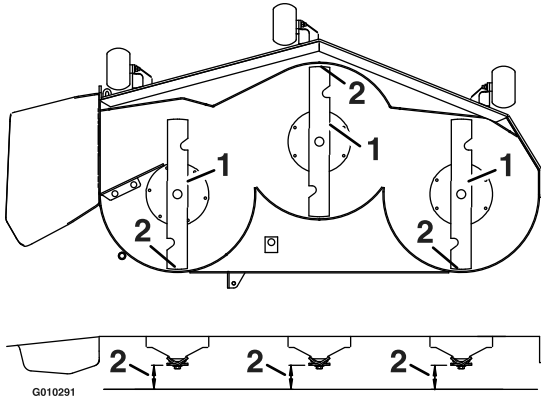
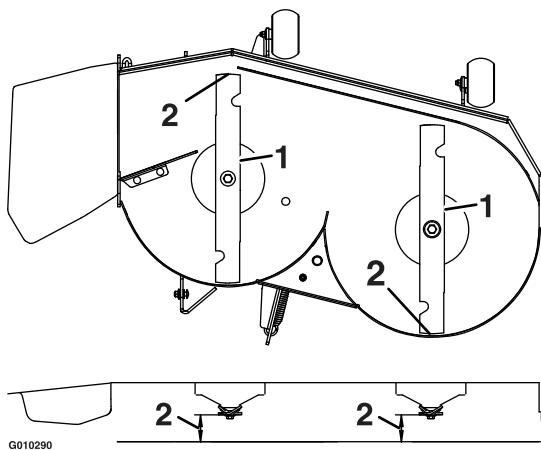

Figure 42
Figure 43
- Carefully rotate the blades so they are facing front to rear (Figure 42 and Figure 43).
- Measure from the tip of the front blade to the flat surface and the tip of the rear blade to the flat surface (Figure 42 and Figure 43). If the front blade tip is not “R” (see Block Height and Rake Table in **Leveling the Mower Deck**) lower than the rear blade tip, adjust the front deck hanger.